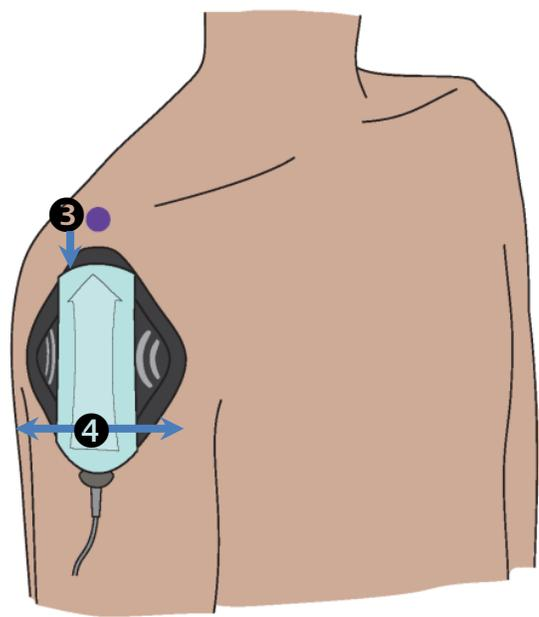

Figure 12. Ray Placed on Shoulder
- 3 Align the Ray so the arrow is pointing towards the shoulder joint with the tip of the Ray one fingers' width inferior to the acromion process along the deltoid (Figure 12 ❸).
- 4 Ensure the Ray is centered dorsoventrally over the deltoid muscle before pressing it onto the patient's skin (Figure 12 ❹).